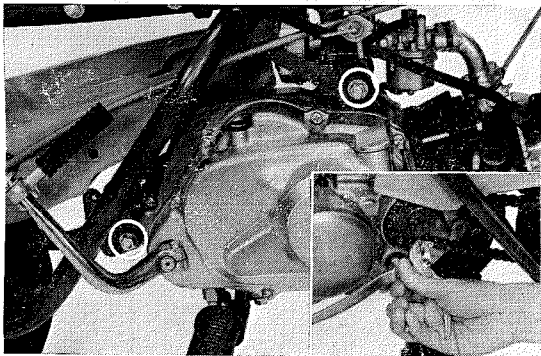

Fig. 20
- 4) Remove the drive chain joint link and take the drive chain off of the engine sprocket. (Fig. 20)
- 7) Place the wooden block under the engine to prevent it from falling. Unscrew two 8 mm nuts and remove two 8 mm spring and plain washers. Push out the rear engine mounting bolt. Holding the engine, carefully pull out the upper engine mounting bolt. (Fig. 20)